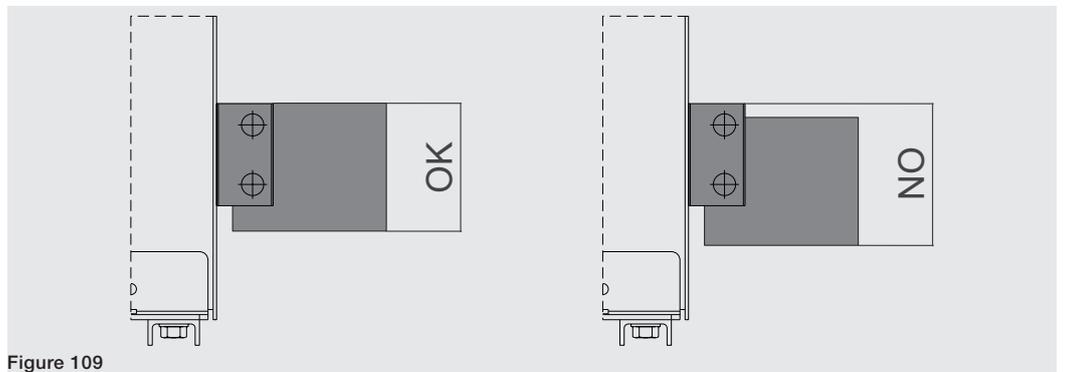

Figure 109
- Guarantee the maximum use of the surface of the terminal. See the example Figure 109.